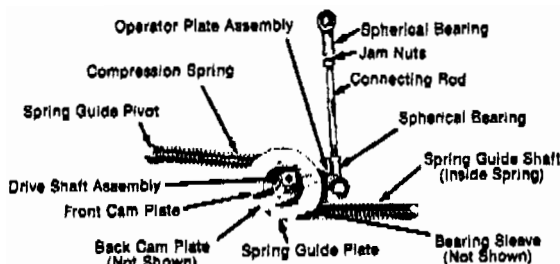

FIGURE 3
The Spring Drive section is made up of the Drive Shaft Assembly, Front Cam Plate, Spring Guide Plate, Spring Guide Shaft, Compression Spring, Spring Guide Pivot, Back Cam Plate, Operator Plate Assembly, Spherical Bearings and Connecting Rod (fig. 3).
- 2—The connecting rod on the operator (Figure 3).
The switch should be put in the open position with the operator plate assembly (Fig. 3) against the welded stop on the rear support frame. The connecting rod has left hand and right hand threads. The open gap is set by loosening the two jam nuts on the connecting rod and turning the rod to obtain the correct open gap. CAUTION — Check the open gap on each pole as there may be a slight variation between phases. Retighten the jam nuts, then close and open the switch. Recheck the open gap.